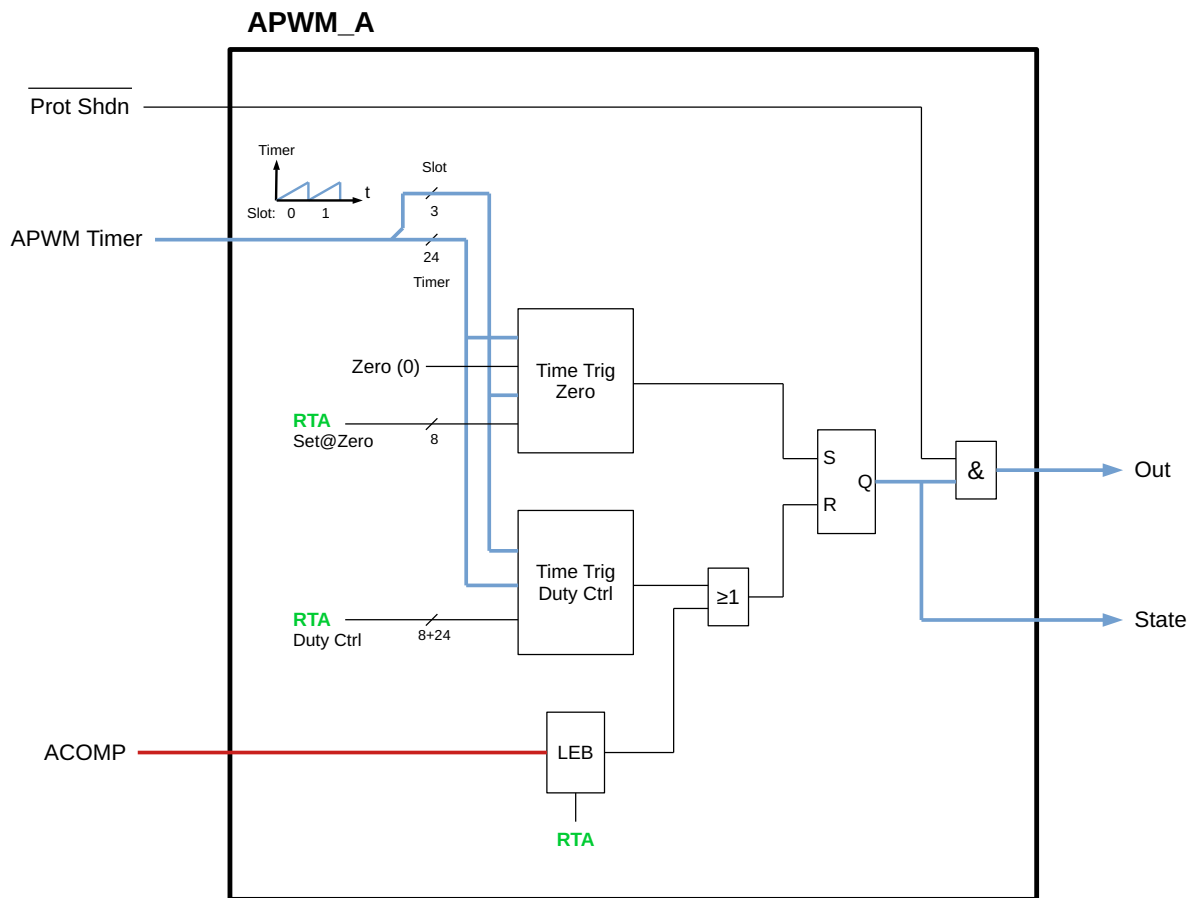

Figure 126. Functional diagram of APWM\_A
The APWM\_A block is a simplified version of APWM\_AB, and has only one PWM output, see figure 126. It can be used in application areas such as low-power DC/DC converters, and current or voltage sources at medium-power signal level, in general for maximum output power in the range 0.01 to 10 W. For low-power DC/DC converters, the APWM\_A and its ACOMP run in peak-voltage mode without RTA, ADC and DAC. It gives an added GR716B consumption per controller of about 1mA from 1.8V supply, and about 0.5mA from 3.3V supply, which should be negligible compared to any other losses in the converter. Instead of alternative solutions such as non-SET-hard radiation-tolerant LDO ICs, these SET-hard APWM\_A based converters can provide robust solutions for low-power DC/DC converters. An example of application area is to generate the auxiliary supply voltages to FPGAs, where the need of supply current is low.
A feature for APWM\_A, together with its APWM Timer, is that they can be configured to work in up to 8 time slots, see the 3bit Slot count in figure 126. APWM Timer Slot configuration equal to 7 gives Slot count from 0 up to 7 and restart from 0 again. Configuration equal to 1 gives Slot count from 0 to 1 and restart from 0. Configuration equal to 0 gives Slot count equal to 0 continuously.
- 8 Out (O) - value of the signal Out in figure 126
- 7 ACOMP Fast (AF) - value of the input Acomp Fast in figure 126
- 6 ACOMP Set Hard (ASH) - value of the input Acomp Set Hard in figure 126
- 5 Reset (R) - value of the signal input R to the SR flip flop in figure 126
- 4 Set (S) - value of the signal input S to the SR flip flop in figure 126
- 3 LEB to ACOMP (LEBAC) - value of the LEB to ACOMP signal output of the LEB block in figure 126
- 1 Protection Shutdown (PS) - value of signal "Prot Shdn" in figure 126
- 0 State (S) - value of signal "State" in figure 126